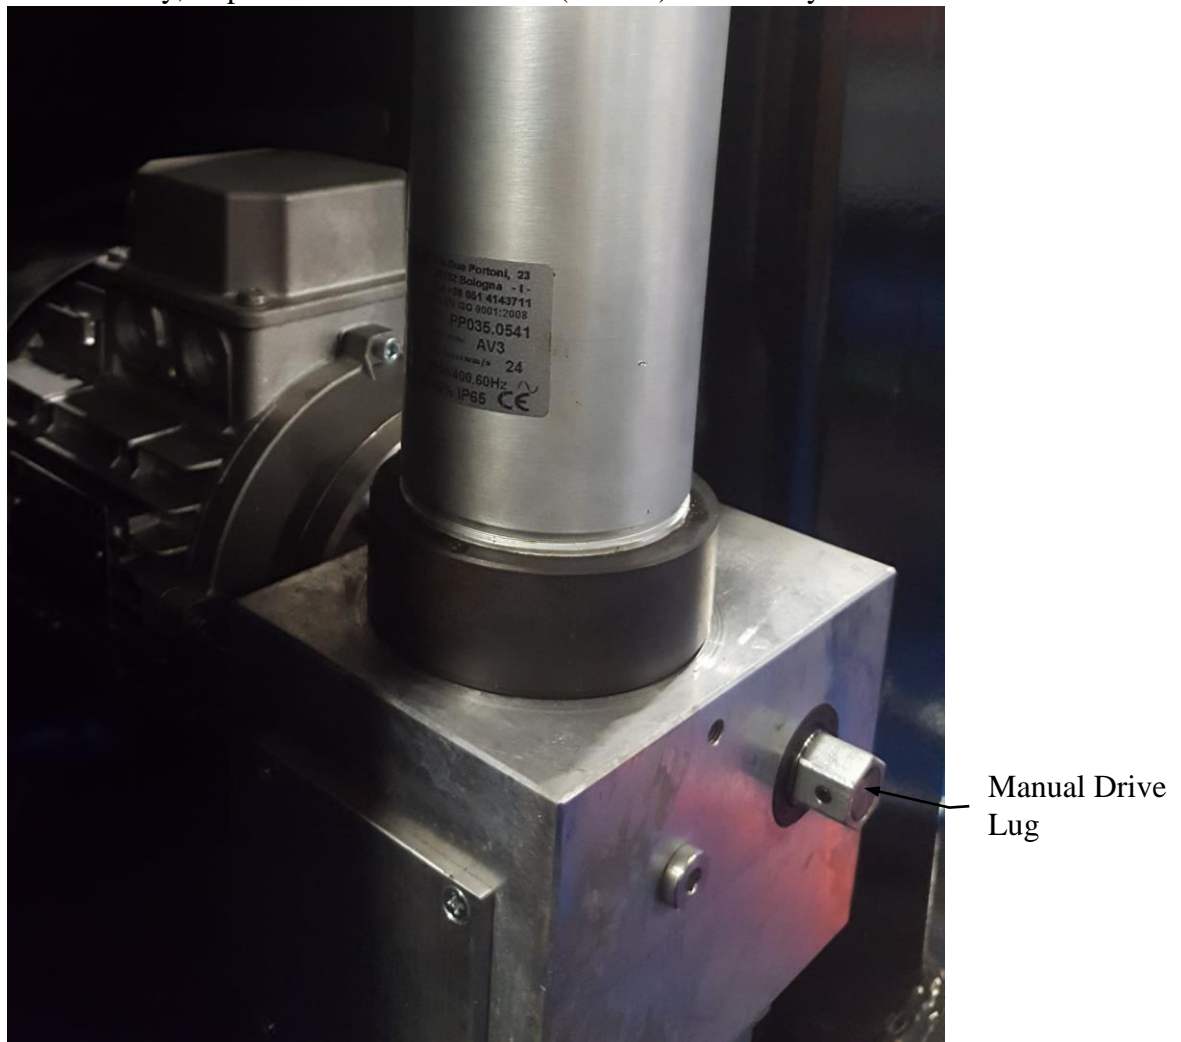

Figure 6 - Manual Drive Lug on 773Ex series
- 3.5.3. Attach a $\frac{3}{4}$ in. socket to a battery powered drill. Use the drill to drive the manual drive sprocket **CLOCKWISE** to **OPEN** the arm or **COUNTERCLOCKWISE** to **CLOSE** the arm. See *Figure 6 - Manual Drive Lug on 773Ex series*. Alternatively, a speed wrench with a $\frac{3}{4}$ in. (18 mm) socket may be used.